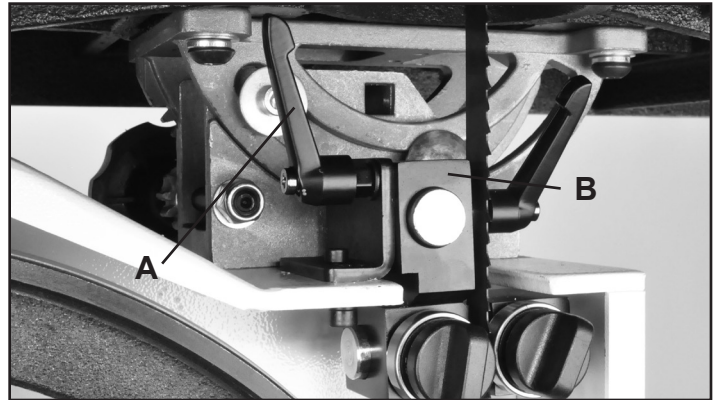

FIGURE 11 NOTE: Blade Guard removed for photo purposes
2. The guides should be approximately 1/16" behind the gullets of the saw blade. If they need to be moved, loosen the Lever Handle (Fig. 11, A), located to the left of the Lower Guide Block (B), and move this block that holds the guides so that the guides are properly positioned behind the blade gullets. Re-tighten the lever handle when done.